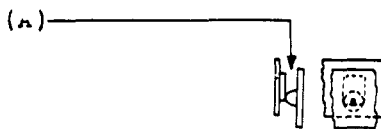

Fig. 4 - Contact Alignment
2.08 Contact Alignment (Film Chamber Contact) - Fig. 4(A): The point of contact shall fall wholly within the boundary of the opposing contact. Gauge by eye.